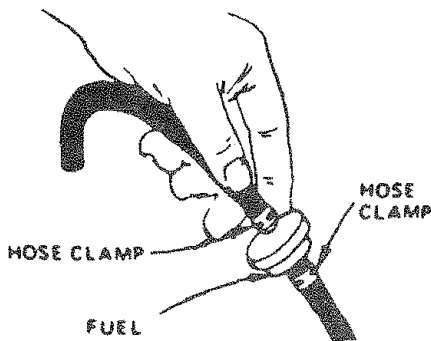

FIGURE 27
a. With engine cool, remove filter and plug fuel line sections as removed from both ends of fuel filter (Fig. 27).